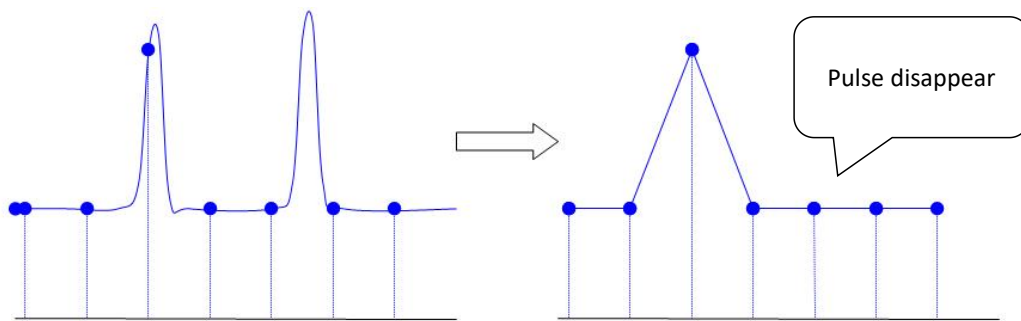

Figure 10-3
- **Waveform Missing:** Due to the low sampling rate, the waveform does not reflect all the actual signals, as shown in Figure 10-3.